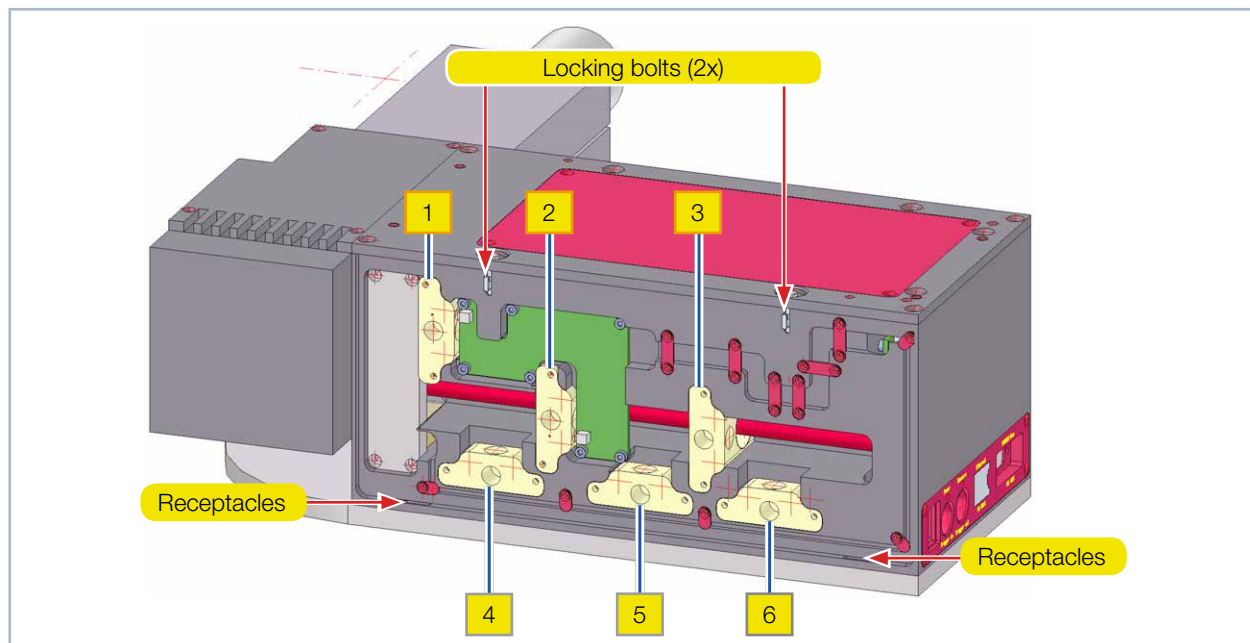

Fig. 13.1: Slot positions for the optical components
2. Press down two locking bolts (see Fig. 13.1 on page 92):
Optical components can be slid into the optical path of the LaserQualityMonitor LQM at three locations (see Fig. 13.1 on page 92, Positions 1, 2, 3).
3. Place the housing plate in the receptacles (see Fig. 13.1 on page 92) in the casing.